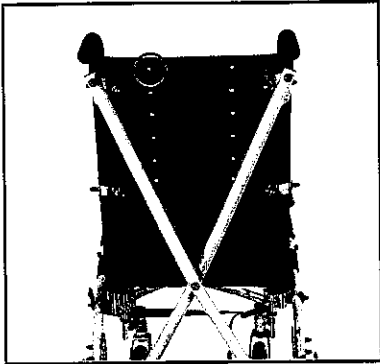

figure 7
5. To adjust the height of the attachment point of the shoulder straps, undo the knob on the back panel, and take the insert out of the grommet (Fig 7). Place the insert at the required position and tighten in place with the knob.